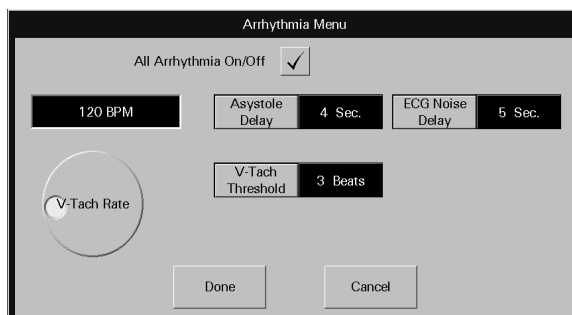

FIGURE 9-41 Arrhythmia Menu Dialog Box
1. Select the All Arrhythmia On/Off check box button in the Arrhythmia Menu dialog box (shown in FIGURE 9-41) to enable or disable arrhythmia analysis for a Telepack-608 device.